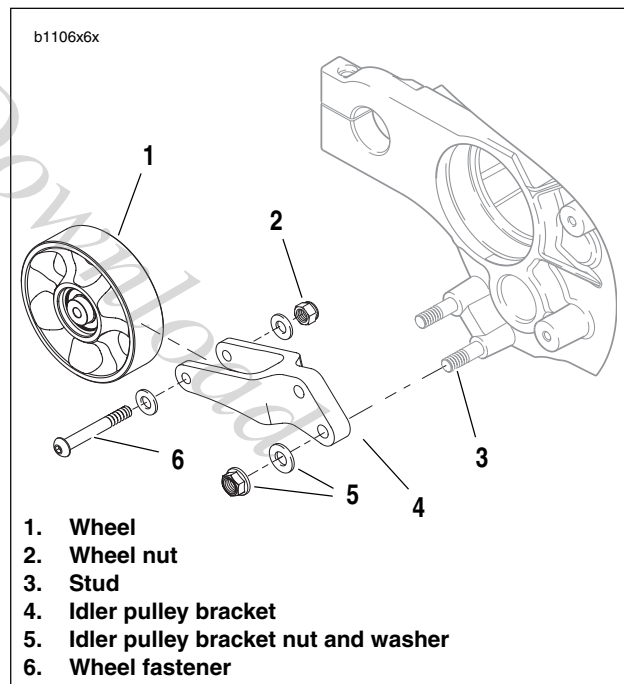

Figure 6-45. Idler Pulley Assembly
5. See Figure 6-45. Remove idler pulley bracket nuts and washers (5) from studs (3).
6. Slide idler pulley bracket (4) off studs (3).
7. See Figure 6-45. Inspect pulley by spinning wheel (1) and checking for wheel bearing wear. See INSPECTION under 1.10 DRIVE BELT.
8. If pulley wheel needs replacement, remove fastener (6), washer and nut (2) from idler pulley bracket (4) and discard wheel. Replace with **new** pulley wheel (1).
1. See Figure 6-45. Install new or existing pulley wheel (1), if removed, and tighten washer and nut (2) wheel fastener (6) to 20-23 ft-lbs (27.1-31.2 Nm).
2. Slide idler pulley bracket (4), washer and nuts (5) on to studs (3) and tighten to 33-35 ft-lbs (45-47 Nm). See DRIVE BELT INSTALLATION.